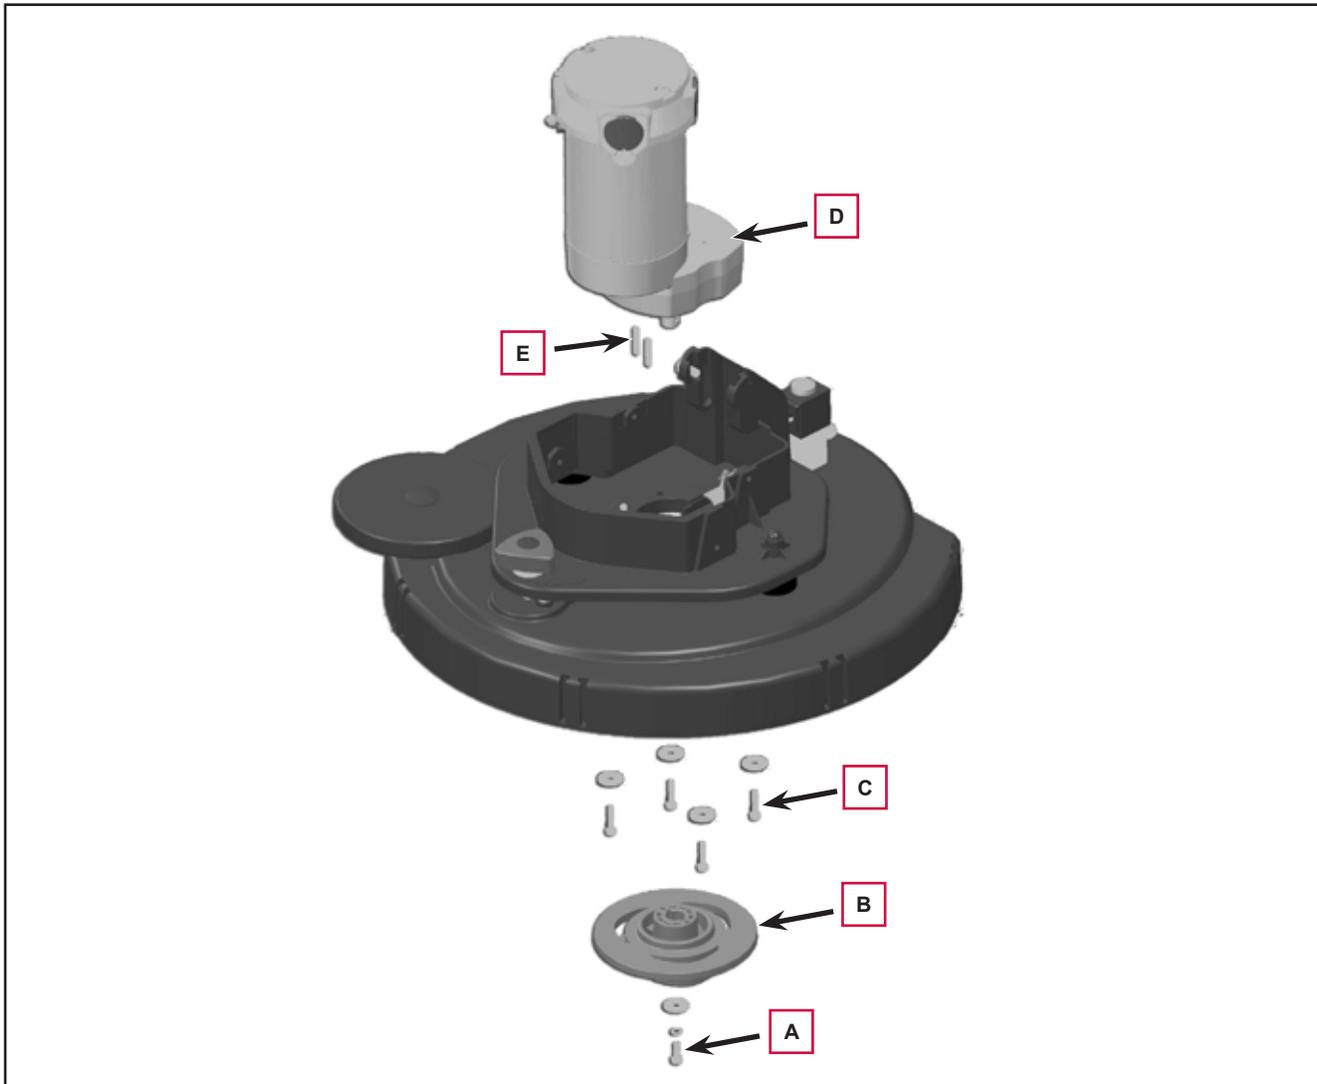

Figure 11
2. At the workbench, remove the screw (A) (Figure 11) of the brush motor.
3. Use a puller to remove the brush hub (B).
4. Remove the screws (C).
5. Remove the brush motor (D).
6. Recover the key (E).